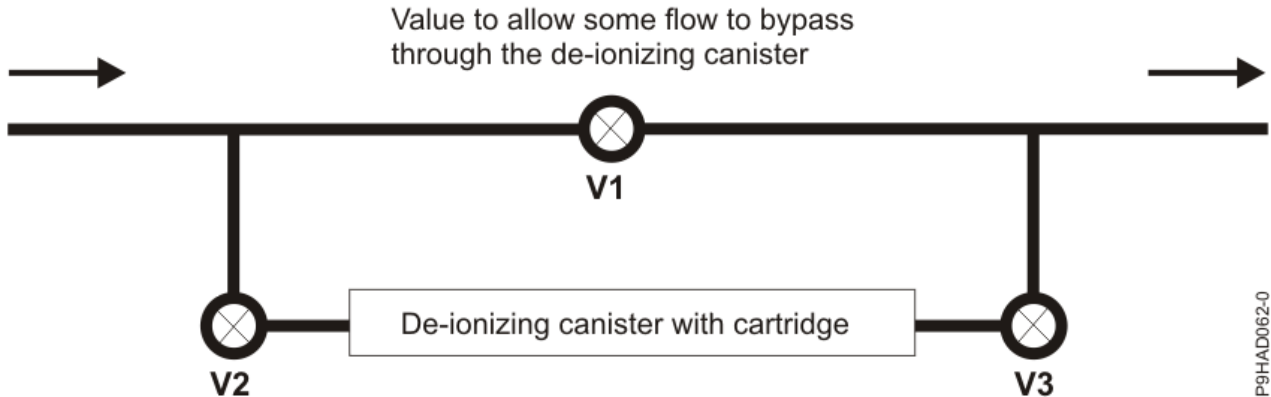

Figure 101. Deionizing the water using deionizing cartridges installed in the cooling loop
- It is important to ensure that the system water is cleaned before any chemicals are added to the water. This can be accomplished by deionizing the water by using deionizing cartridges that are installed in the cooling loop. An example is shown in Figure 101 on page 159. Even if deionized water is used to fill the system, a deionizing step is prudent for two reasons: the first is to ensure that the starting water is deionized and the second is to remove any ions that might leach off the walls of the cooling loop.